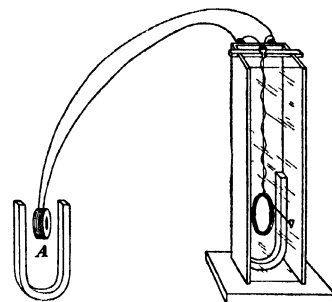

FIG 77
**III. Principles of the dynamo and the motor.** (a) Hold the coil *A* between the poles of a horseshoe magnet (Fig. 77), and in such a position that its plane is *perpendicular* to a line joining the poles. Rotate quickly through  $90^\circ$ ; that is, to a position in which its plane is *parallel* to the lines of force. Observe the direction of deflection of the suspended coil.